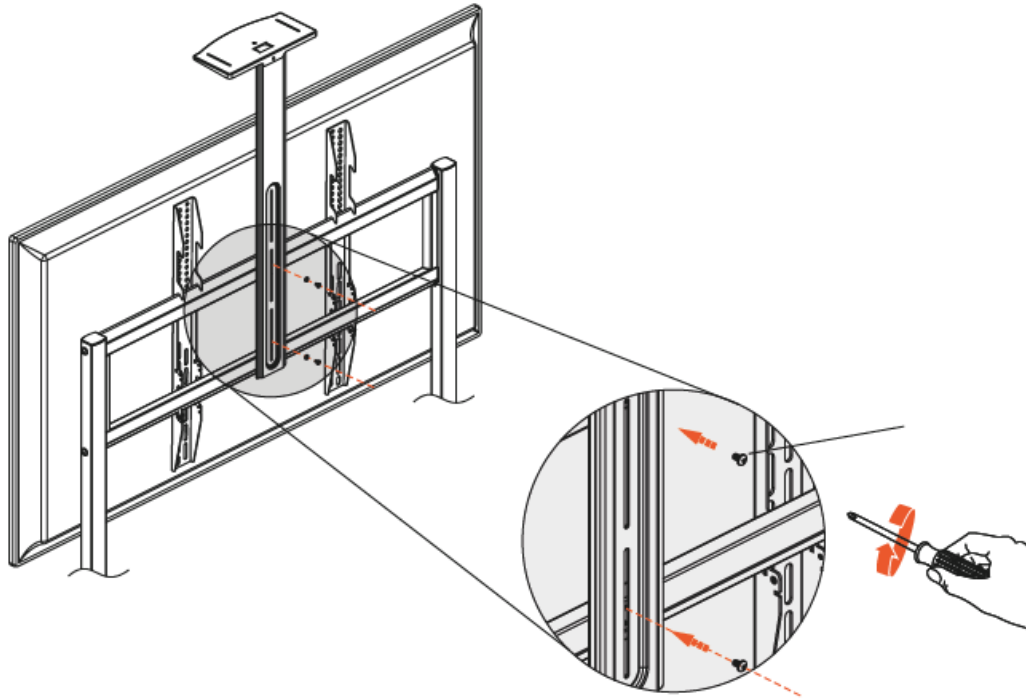

Fig. 18
- Attach the entire camera shelf to the back of the display stand using screws D2, as shown in Figure 18.